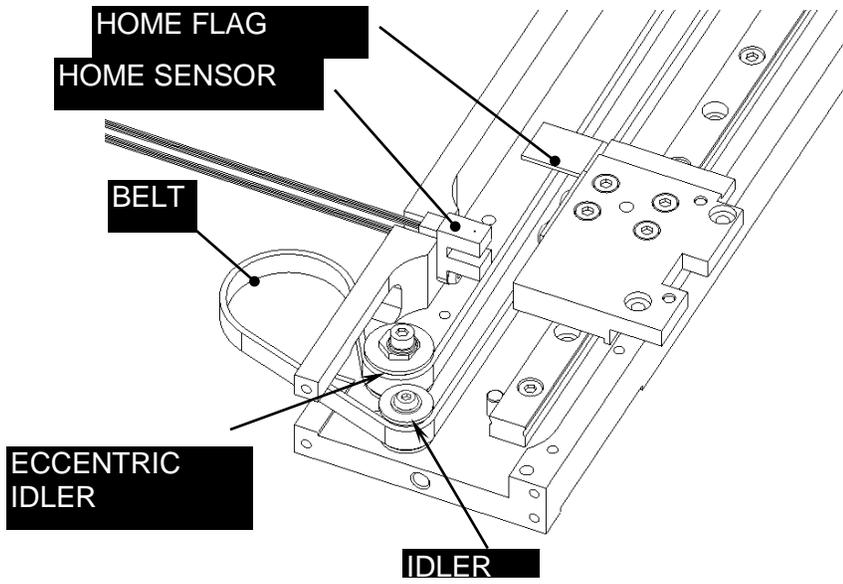

Figure 8-19: Installing the Belt, Part A
4. Loop the belt around the two Idlers and the Eccentric Idler as shown in Figure 8-19 and 8-20. Slide the YZ Attachment Block up to the end of its travel to check that the Home Flag on the Y Belt Attachment Bracket does not hit the Home Sensor as it passes through it.